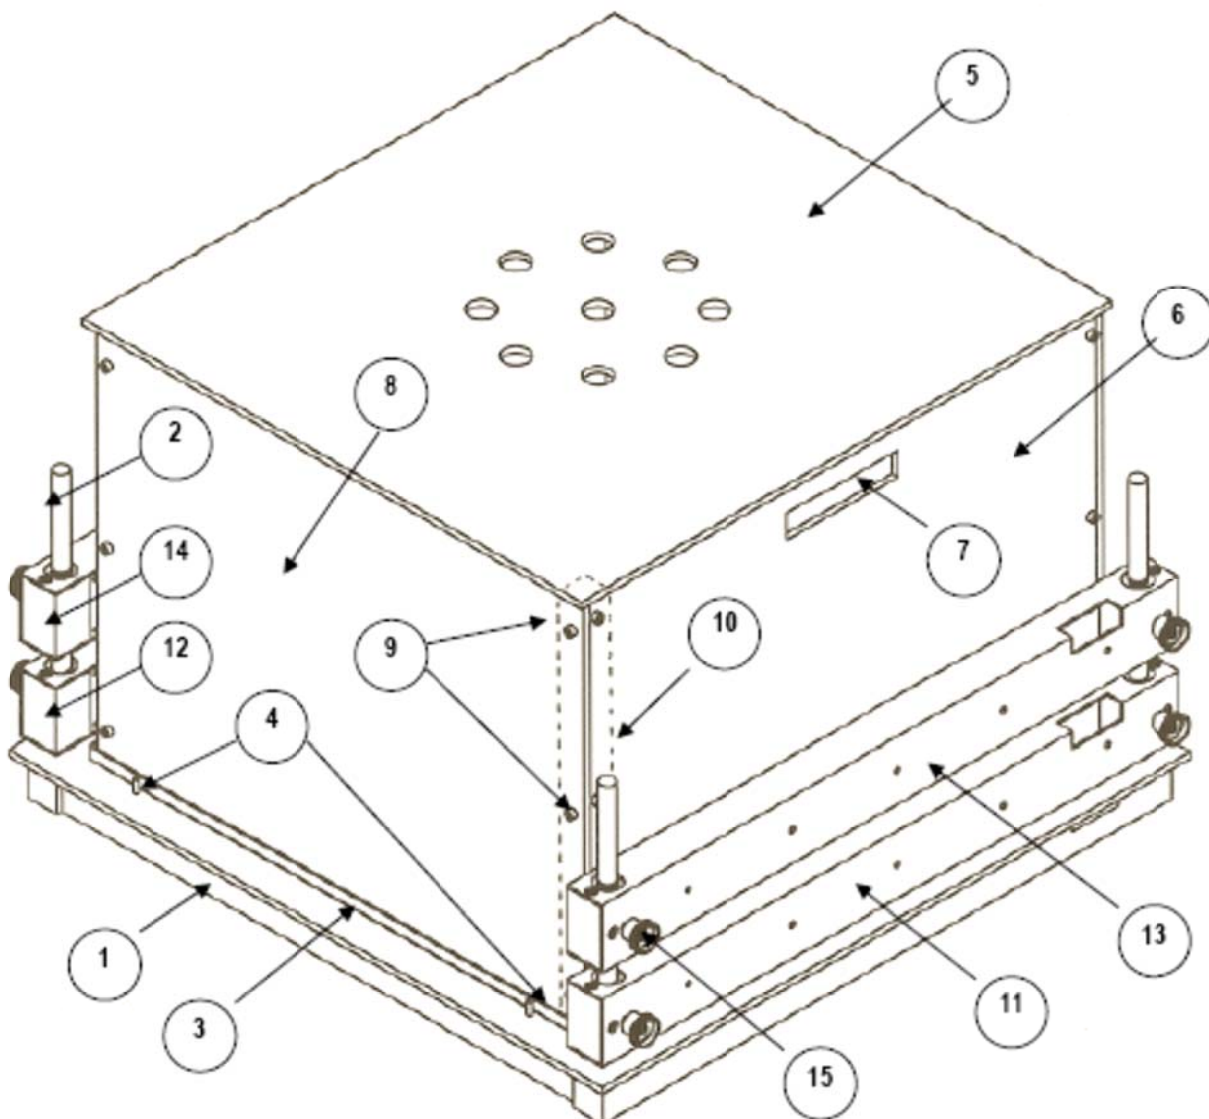

Figure 4 "Animal Cage"
Once the blocks are positioned at a convenient height, see Figure 4 "Animal Cage" block them via the side knurled-knobs (15) with which each block is provided.